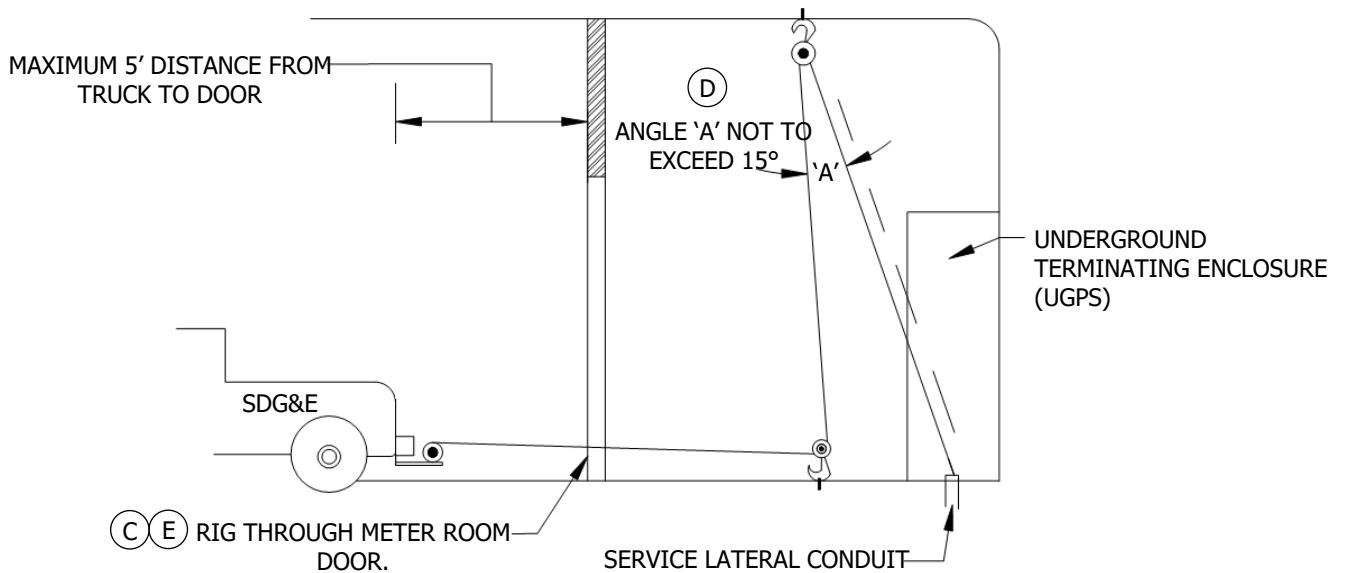

FIGURE 1
- (A) CUSTOMER TO PROVIDE PULLING EYE HOOK STRUCTURALLY IN THE CEILING WITH A LOAD CAPACITY OF 8,000 LBS. LOCATE EYE HOOK IN FRONT OF, AND CENTERED TO, THE UGPS. CUSTOMER TO SUBMIT THE STRUCTURAL ENGINEER'S APPROVED DRAWING(S) TO SDG&E'S (UTILITY) **PROJECT** PLANNER PRIOR TO INSTALLATION OF THE EYE HOOK AND COIL INSERT (REFERENCE NOTE B). COORDINATE THE INSTALLATION WITH THE UTILITY'S INSPECTOR.
- (B) CUSTOMER TO PROVIDE A 1" X 4-1/2" DAYTON/RICHMOND FLARED THIN SLAB COIL INSERT (F-63), OR EQUIVALENT, WITH A SAFE WORKING LOAD TENSION OF 4,750 LBS. AND A LOAD OF 8,000 LBS. WHEN USED IN COMBINATION WITH THE COIL INSERT SPECIFIED ABOVE. INSTALL THE COIL INSERT AND SWIVEL LIFTING PLATE DIRECTLY BELOW THE PULLING EYE HOOK SPECIFIED IN NOTE A. COORDINATE THE INSTALLATION WITH THE UTILITY'S INSPECTOR. TO ENSURE SAFETY, INSTALLATION OF THE COIL INSERT AND SWIVEL LIFTING PLATE SHALL BE IN COMPLIANCE WITH THE MANUFACTURER'S INSTALLATION INSTRUCTIONS.
- (C) THE RIGGING PATH THROUGH THE METER ROOM DOOR IS TO BE DIRECTLY IN LINE FROM TRUCK ACCESS TO THE FLOOR-MOUNTED COIL INSERT AND SWIVEL LIFTING PLATE THROUGH THE METER ROOM DOOR.
- (D) THE PULLING EYE HOOK SPECIFIED IN NOTE A, AND THE FLOOR-MOUNTED COIL INSERT AND SWIVEL LIFTING PLATE SPECIFIED IN NOTE B ARE TO BE POSITIONED AT A DISTANCE OUT FROM THE UGPS SUCH THAT ANGLE 'A' (SEE FIGURE 1) IS NOT GREATER THAN 15 DEGREES. THE RIGGING PATH THROUGH THE FRONT OF THE UGPS IS TO BE UNOBSTRUCTED, AND THE RIGGING IS TO HAVE NO CONTACT WITH THE TOP, BOTTOM, OR SIDES OF THE PULL SECTION OPENING. MAXIMUM ALLOWABLE HEIGHT OF TOP PULLING EYE IS 14'.
- (E) CUSTOMER TO PROVIDE THE UTILITY 24-HOUR DIRECT ACCESS TO WITHIN 5' OF THE METER ROOM DOOR(S).